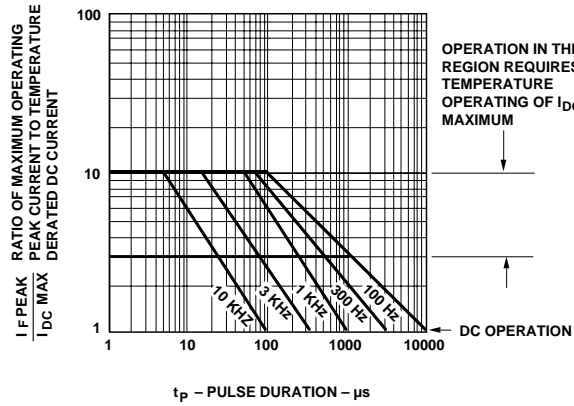

Figure 5. Maximum Tolerable Peak Current vs. Pulse Duration - HER, Orange.
3. See Figure 5 to establish pulsed conditions.